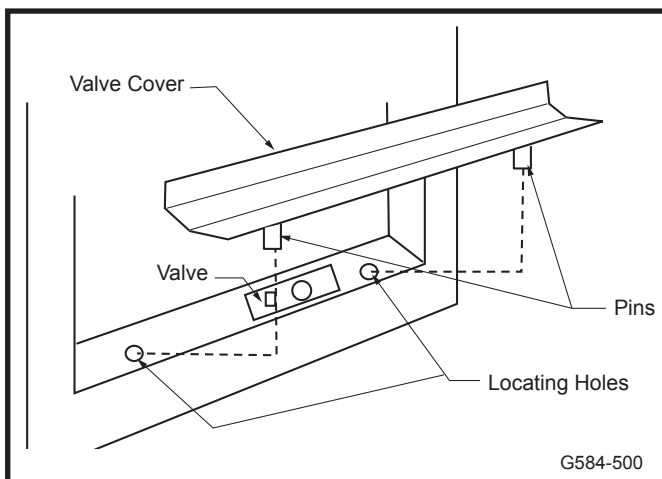

Fig. 47 Valve cover location.
3. Remove valve cover. (Fig.47)